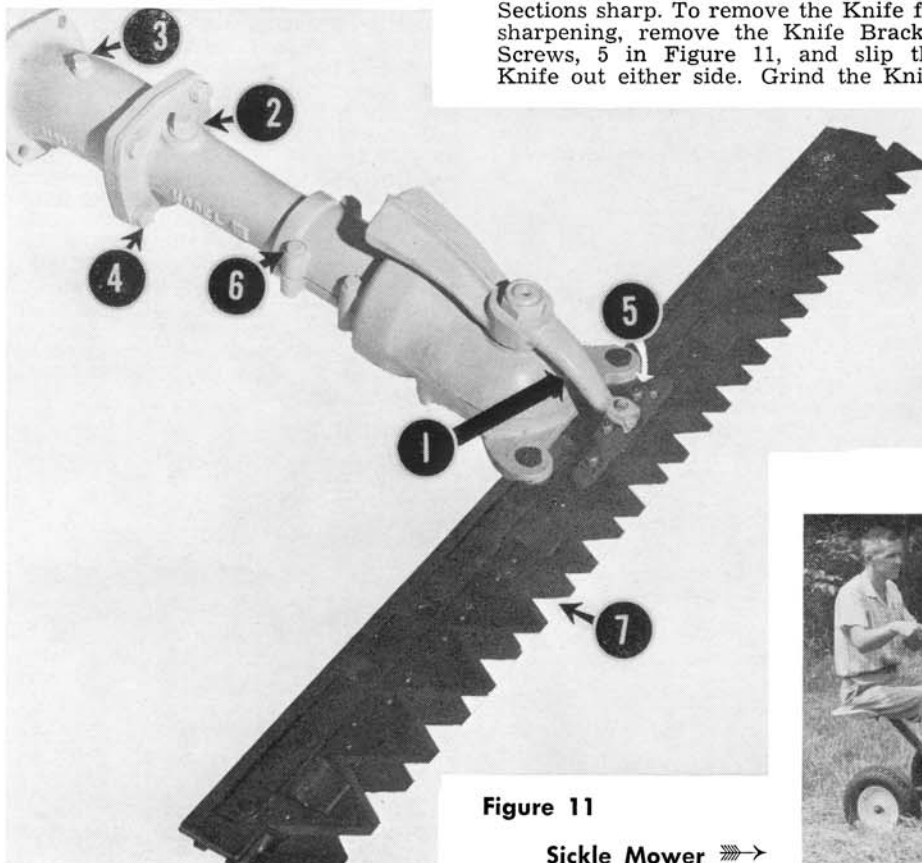

Figure 11
Check the Drive Assembly oil level every four hours of operation by removing the Oil Level Plug, 1 in Figure 11. If oil runs out, the oil level is all right; if not, oil must be added.
To add oil, remove the Oil Filler Plug, 2 in Figure 11 and pour oil through the Oil Filler Hole until oil begins to run out the Oil Level Hole. Replace both Plugs before mowing.
To lubricate the Universal Joint, remove the Grease Plug, 3 in Figure 11, and fill about half-full with Mobilgrease MP.
Because the Universal Joint needs lubrication only occasionally, you may prefer this method: with the Mower detached from the Tractor, remove the Safety Clutch and four bolts, 4 in Figure 11, which hold the lower column to the Universal Housing and slip the Housing partly off. Then apply Mobilgrease MP generously to the Universal Joint (coat it all over with one to 1½ inches of Mobilgrease MP). Reassemble all parts, making sure you tighten firmly the large nut which holds the Safety Clutch.
**SWIVEL ACTION.** To increase swivel action (allowing the Mower to follow the contour of the ground), loosen the bolts, 6 in Figure 11. When these bolts are tightened firmly, the Mower is held in a rigid position. The bolts should be tight enough so the Guide Bar will hold its position until lowered, but loose enough for the Guide Bar to follow the contour of the ground.
**GUARDS.** Always keep the Guards, 7 in Figure 11, in alignment by tapping these with a light hammer until the Knife Sections lie flat on the Shear Plates of the Guards. Keep the Guard Bolts tightened securely.
For best performance, keep the Knife Sections sharp. To remove the Knife for sharpening, remove the Knife Bracket Screws, 5 in Figure 11, and slip the Knife out either side. Grind the Knife